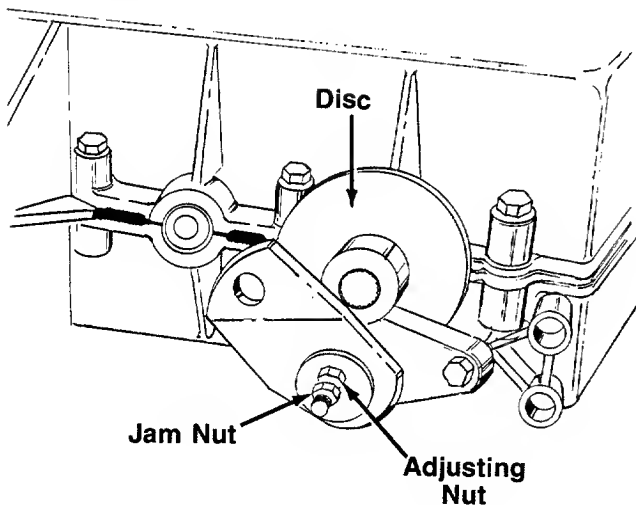

FIGURE 12.
1. Loosen the jam nut. See figure 12.